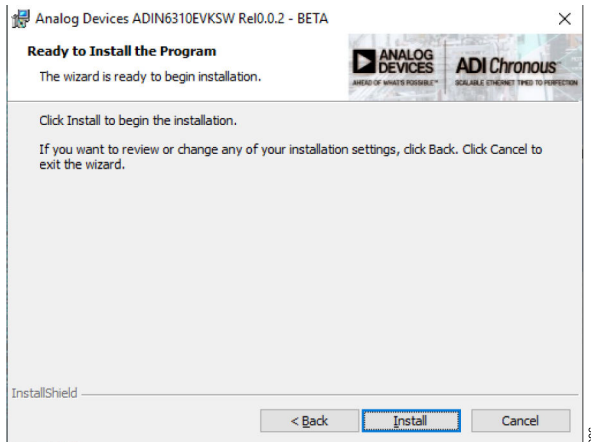

Figure 6. Installation Begins
7. At the next step, click **Install** (see Figure 6).